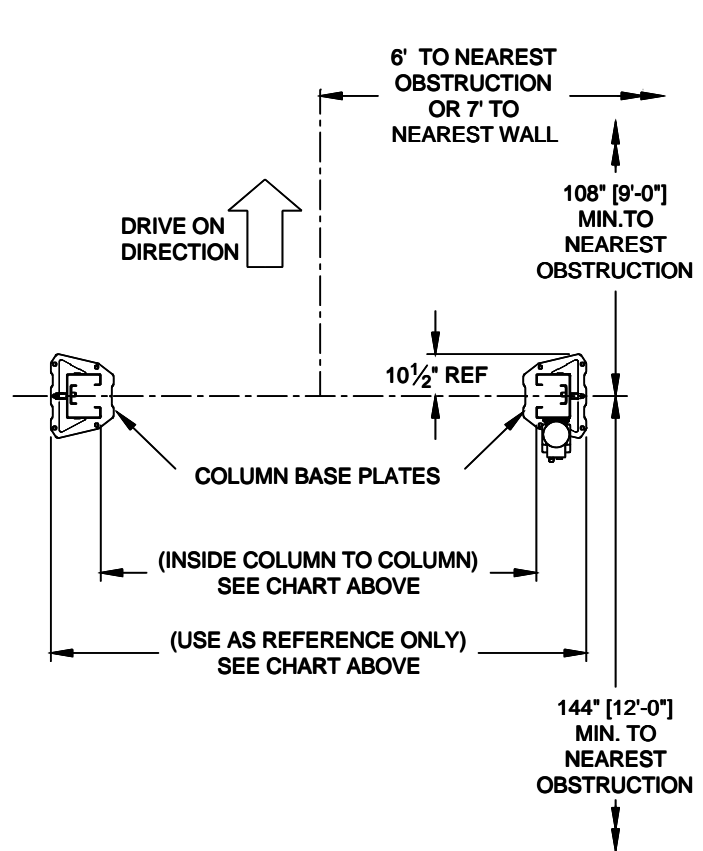

Fig1b - Service Bay Layout
- 1) Layout the service bay according to the architect's plans or owners instructions (**see Fig 1b**). Be certain that the proper conditions exist, see page 3.